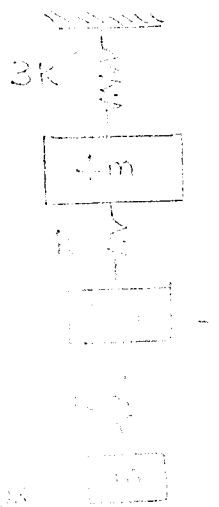

Fig. Q8
- 8 Find the natural frequency of the system shown in figure Q8. Use Holmers method. (20 Marks)